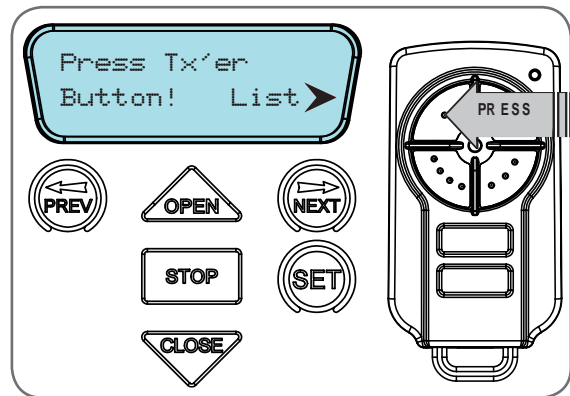

Fig 9.2
- Press the transmitter button you wish to use to operate the opener (e.g. button 1) **(Fig. 9.2)**.